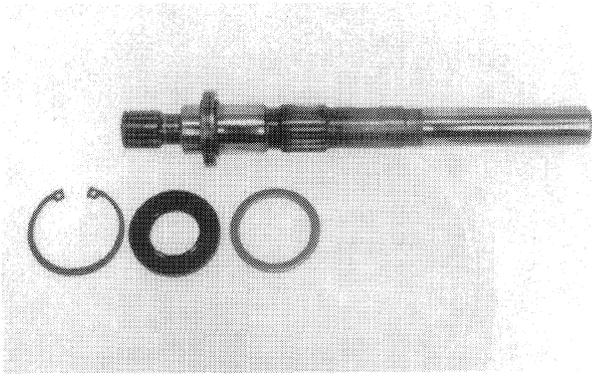

FIGURE 5-10
- b. Slide the shaft out of the housing. The shaft and related parts are shown in Figure 5-10.